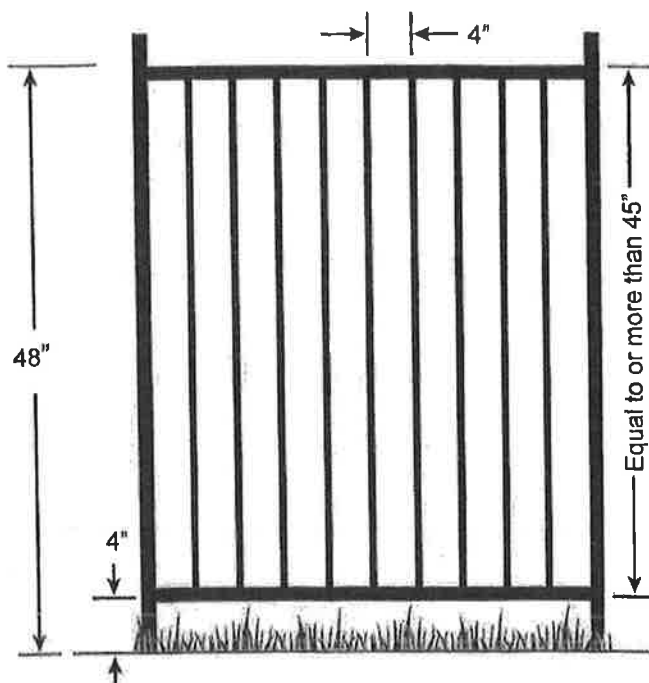

Figure 1
1. The top of the barrier should be at least 48 inches above the surface measured on the side of the barrier which faces away from the swimming pool (figure 1).
2. The maximum vertical clearance between the surface and the bottom of the barrier should be 4 inches measured on the side of the barrier which faces away from the swimming pool and 1 inch for removable mesh fences (figures 1 and 10).